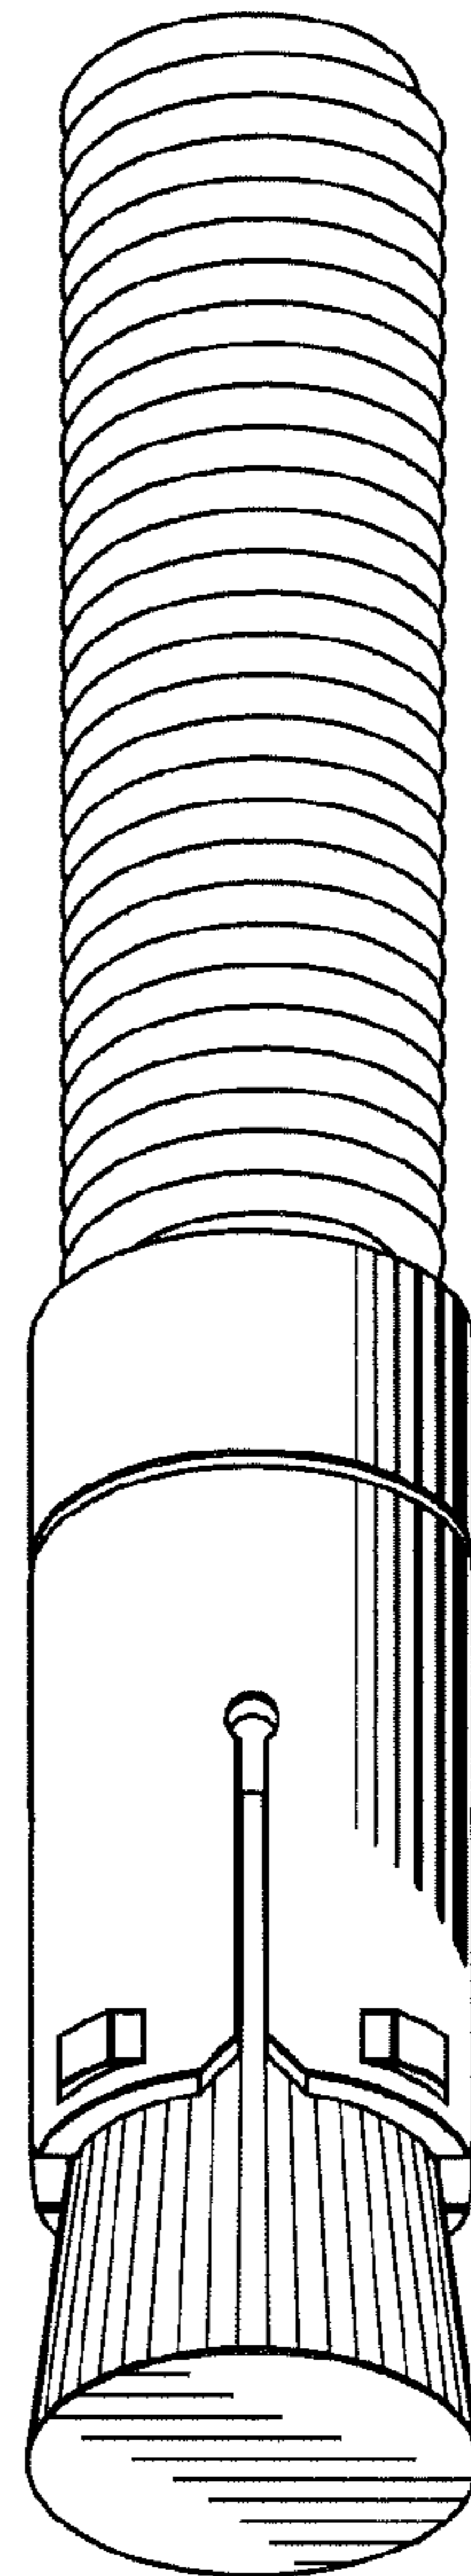

Fig. 16
- FIG. 16 is a bottom perspective view of the stud having longitudinal ridges;